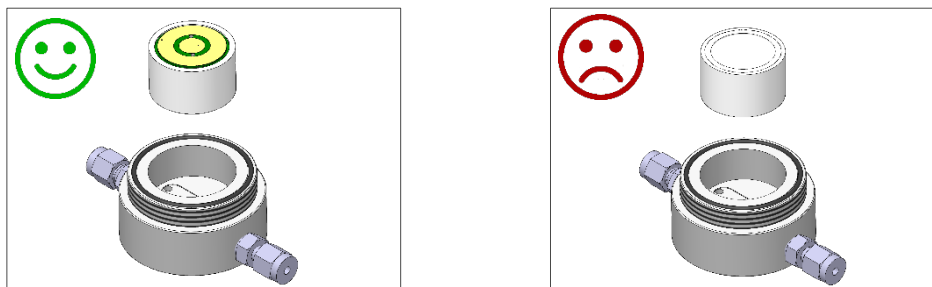

Figure 6. Aligning your sensor
- Remove the sensor from its packaging, remove the shorting flags and immediately place in the bottom sensor housing with the gold contact plate facing upwards as shown in Figure 6.
- Remove the sensor from its packaging, remove the shorting flags and immediately place in the sensor holder or bottom housing with the gold contact plate facing upwards (orientation shown in Figure 6).